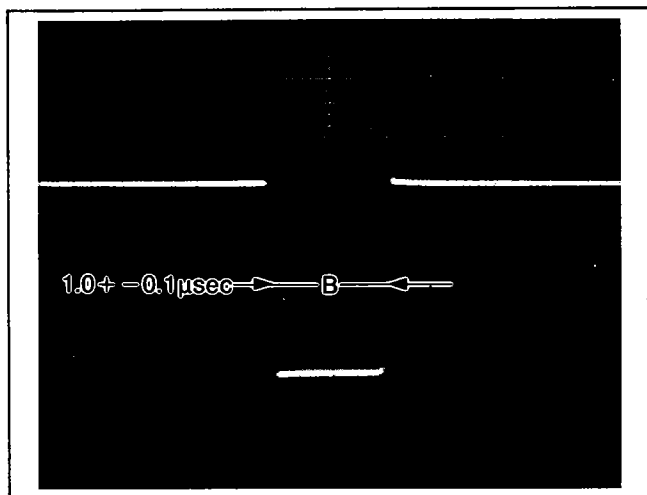

Figure E25.
4. Adjust VR9002 until the noise gate width "B" is $1.0 \pm 0.1 \mu\text{s}$ as shown in Figure E25.